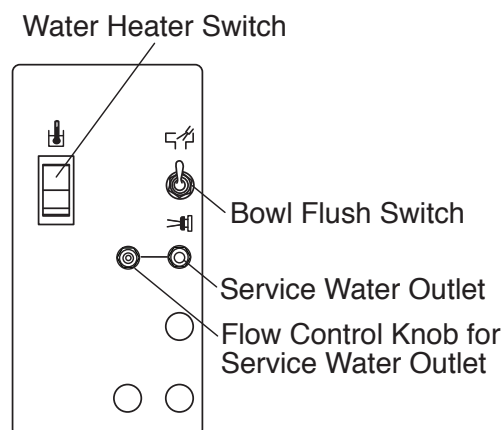

Fig.3-11 Cuspidor Control Panel
6. WATER HEATER SWITCH (Fig.3-11)
7. SERVICE WATER OUTLET WITH FLOW CONTROL (Fig.3-11)
8. BOWL FLUSH SWITCH (OPTION) (Fig.3-11)